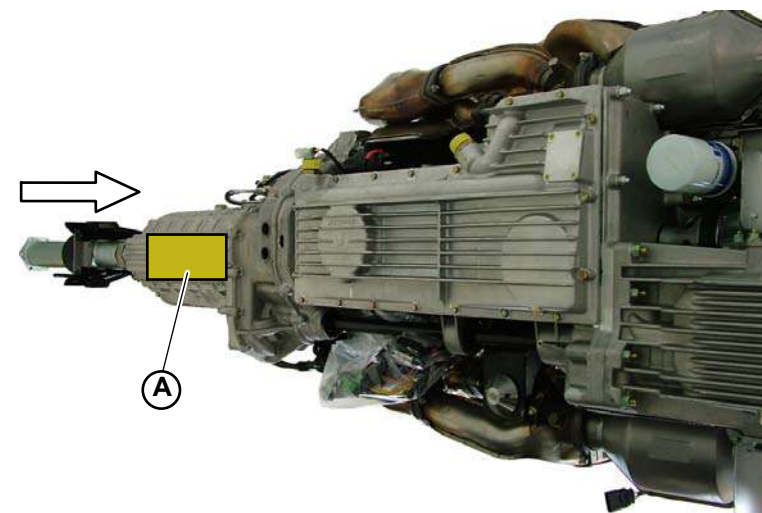

Fig.1
34. Support the gearbox by means of a specific lifting device by inserting a wooden piece **(A-Fig.1)** and lever by means of a crowbar to move the engine towards the rear part in order to disconnect the front differential from the drive pipe.